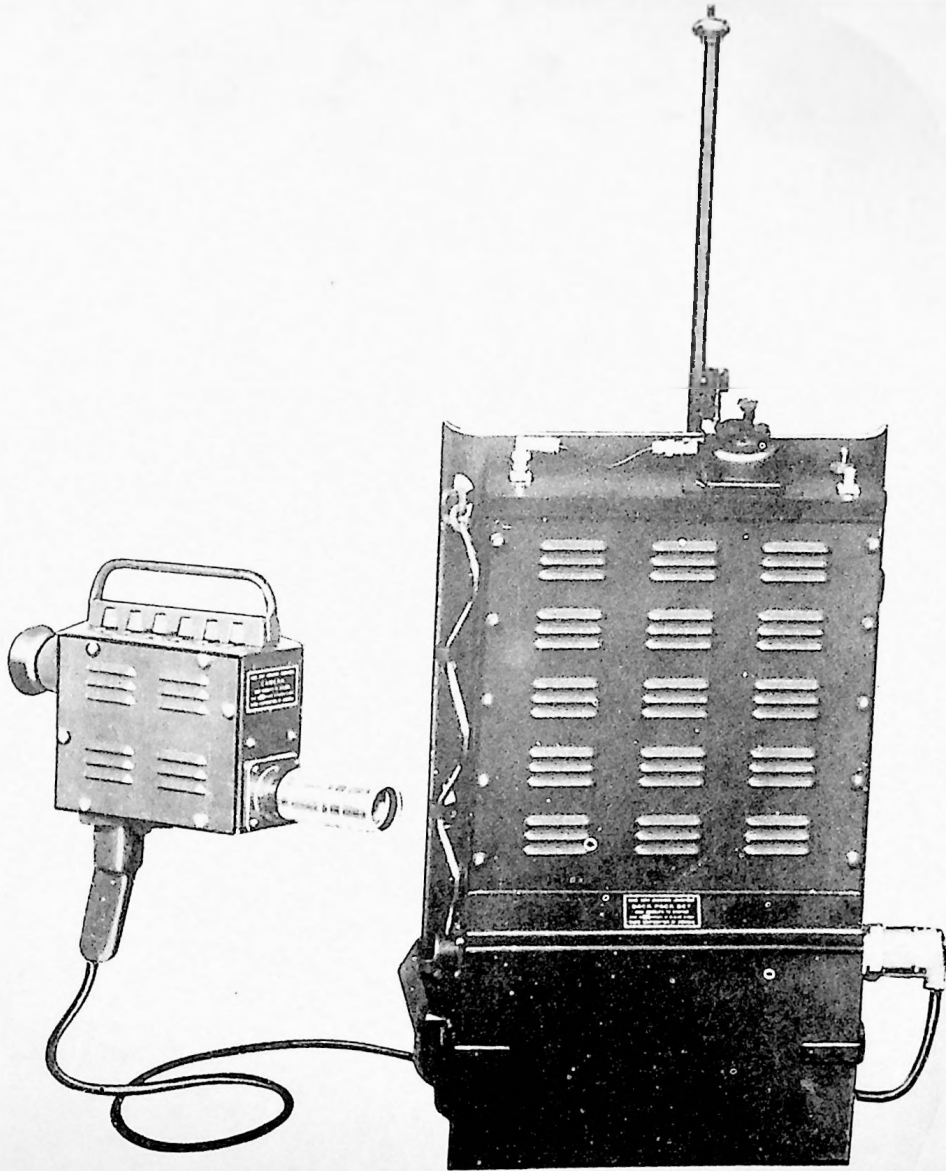

Figure 11. Back-pack vidicon camera.
a. Back-Pack Vidicon Camera. The back-pack vidicon camera, shown in figure 11, is a complete television transmitting system for use in the field. All operating controls are provided on the camera. The camera itself weighs 8 pounds and the complete back-pack weighs less than 50 pounds. The transmitter has a peak power output of 2 watts, a 10-mc bandwidth, and an operating frequency of 360 mc. The camera has 525-line, 30-frame, interlaced scanning. The power supply consists of rechargeable, silver-zinc batteries and a small dynamotor.
129. An advantage of the JTV-1 hand camera, when compared to the back-pack vidicon camera shown in figure 11 of the Attached Memorandum, is that it